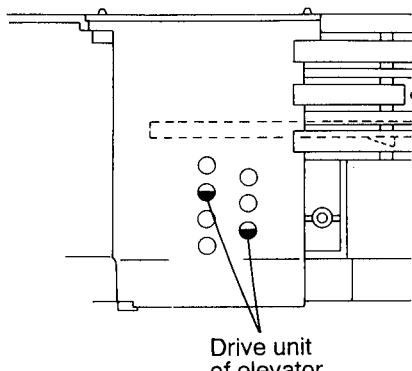
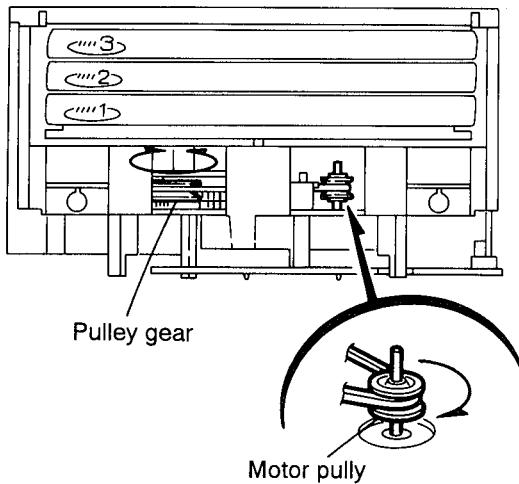

Fig. 2-13a
Fig. 2-14
12. Make sure that the driver unit elevator is positioned as shown in Fig. 2-13a from the second or fifth hole on the left side face of the CD changer mechanism.
- [Caution]** In case the driver unit elevator is not at the above position, set the elevator to the position as shown in Fig. 2-13a by manually turning the pulley gear as shown in Fig. 2-14.